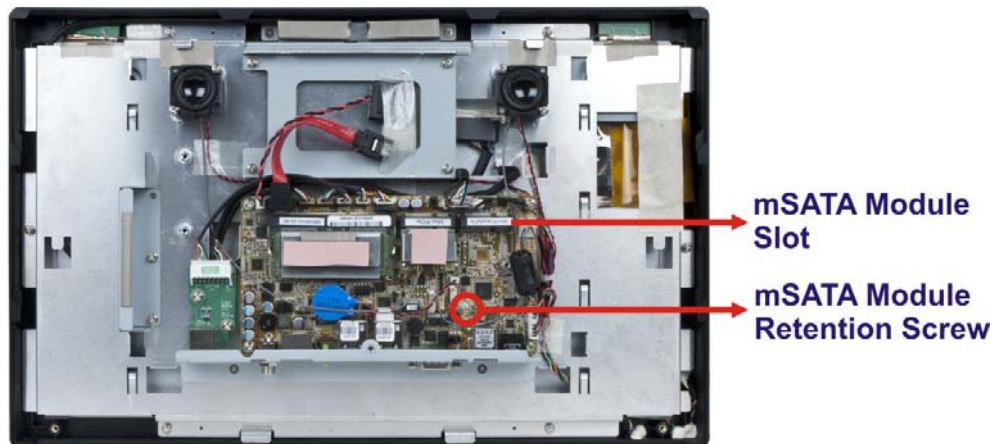

Figure 3-6: mSATA Module Slot Location
- Step 2:** Locate the full-size PCIe Mini card slot. Remove the preinstalled retention screw on the screw pillar of the PCIe Mini card slot as shown in **Figure 3-6**.